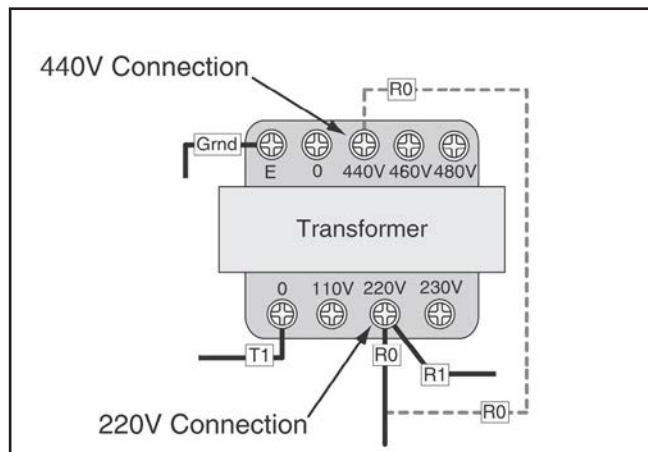

Figure 7. Model G0638 220V and 440V transformer connections.
4. Move the "R0" wire on the transformer from the 220V terminal to the 440V terminal (see **Figure 7**).